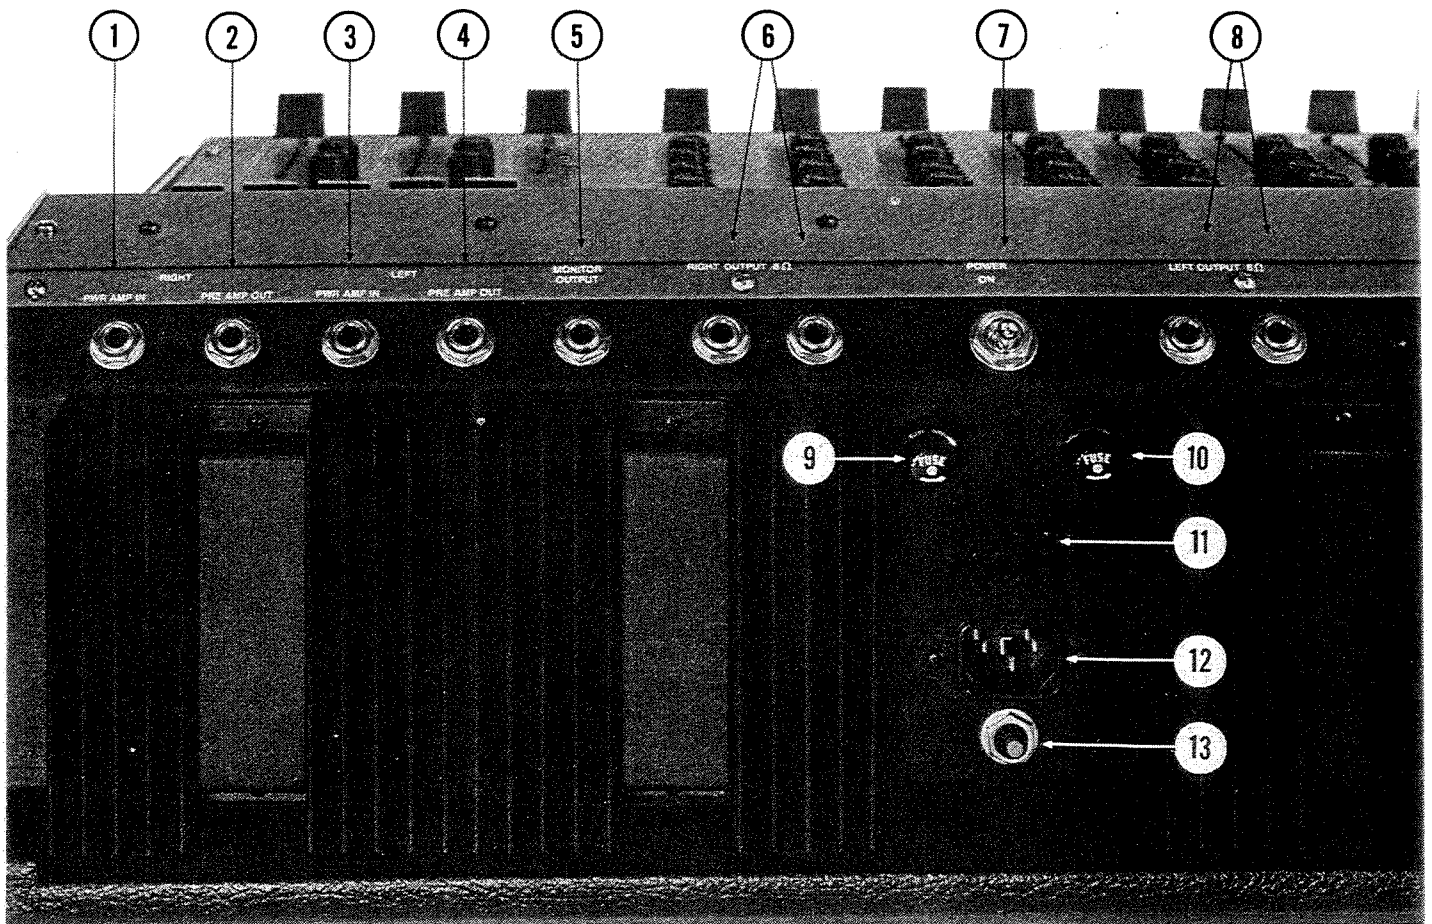

FIGURE 10 — Back Panel
Left Channel (Fig. 10 - Item 3) and Right Channel (Fig. 10 - Item 1)
Left Channel (Fig. 10 - Item 4) and Right Channel (Fig. 10 - Item 2)
Monitor (Pre-Amp) Output Jack (Fig. 10 - Item 5)
Power On/Off Switch (Fig. 10 - Item 7)
Left Output Jacks (Fig. 10 - Item 8) **and Right Output Jacks** (Fig. 10 - Item 6)
Speaker Fuses (Fig. 10 - Items 9, 10)
Accessory AC Outlet (Fig. 10 - Item 11)
Line Cord Receptacle (Fig. 10 - Item 12)
Circuit Breaker (Fig. 10 - Item 13)
Remove the 120 VAC power cord from the inside of the Mixer cabinet top and plug it into the line cord receptacle in the rear of the Mixer (Fig. 10 - Item 12). An accessory AC outlet (Fig. 10 - Item 11) is provided directly above the power cord socket. DO NOT remove the grounding prong of the AC plug because it prevents hum and possible electric shock. If necessary, use a three-prong to two-prong adapter.
6. Turn the power switch on (Fig. 10 - Item 7). The two VU Meters should light up. If they do not, check the power cord connections and the circuit breaker (Fig. 10 - Item 13).
If the MA8S is to be used as an expander with another Master unit, the left and right Pre-Amp Out jacks (Fig. 10 - Items 2, 4) and the Monitor Out jack (Fig. 10 - Item 5) should be connected to the Master unit. Use the Master section controls of the MA8S as Submasters.
Monitor Out Jack (Fig. 10 - Item 5)
Pre-Amp Output Jacks (Fig. 10 - Items 2, 4)
Connect the Left and Right Pre-Amp Output jacks (Fig. 10 - Items 4, 2) to a two channel electronic crossover. If the MA8S is to be used for bass, use bass speaker enclosures and connect the Left and Right Power Amp In jacks (Fig. 10 - Items 1, 3) to the respective "low" outputs of the crossover, and connect the "high" outputs of the crossover to the additional two channel P.A. amplifier which is connected to the high frequency speakers. If the MA8S is to be used for highs, reverse the System connections.
To record the Main Channel signal, connect the tape recorder to the Left and Right Pre-Amp Output jacks (Fig. 10 - Items 2, 4).